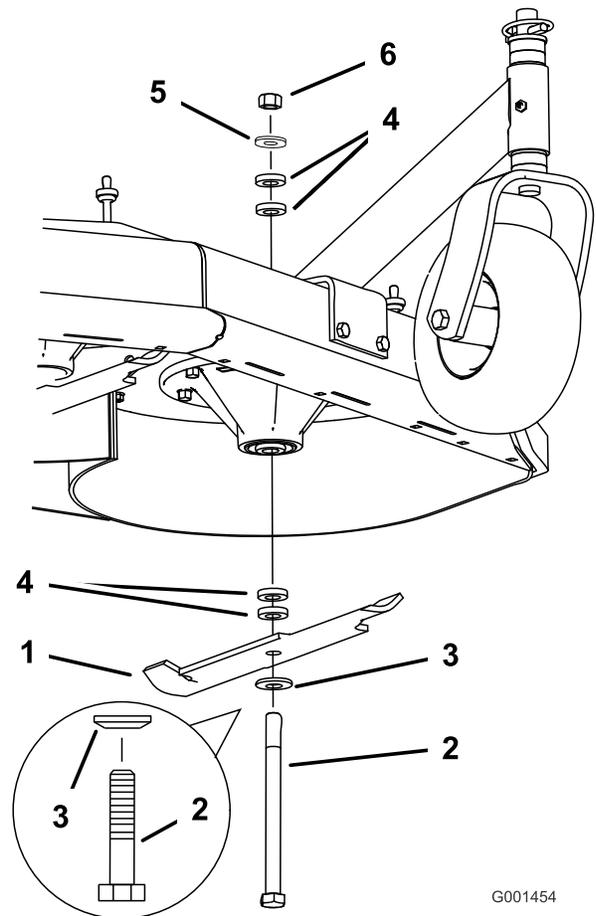

Figure 57
2. Remove the nut, blade bolt, curved washer, blade, spacers, and thin washer from the spindle (Figure 57).
1. Install the curved washer and then the blade onto the bolt. Select the proper number of spacer(s) for the height-of-cut, and slide the bolt into the spindle (Figure 57).